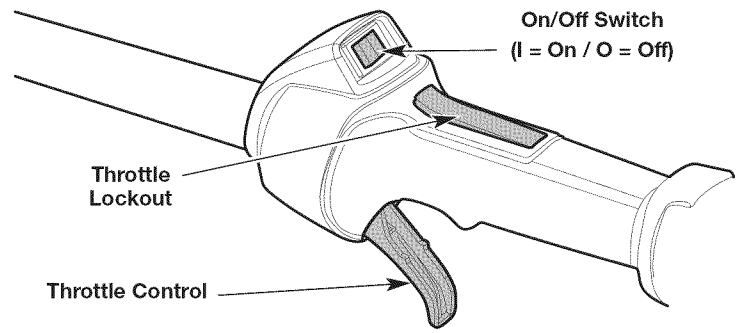

Fig. 11
NOTE: There is no need to turn the unit on. The On/Off switch is in the **On (I)** position at all times (Fig. 11).
5. Press and hold the throttle lockout. Squeeze and hold the throttle control (Fig. 11). Pull the starter rope with a controlled and steady motion until the unit starts (Fig. 13).
2. Press and hold the On/Off switch in the **Off (O)** position until the engine comes to a complete stop (Fig. 11).
6. Press and hold the throttle lockout. Squeeze and hold the throttle control (Fig. 11). Run the Speed Start™ accessory in intervals no longer than 2 seconds each until the unit starts.